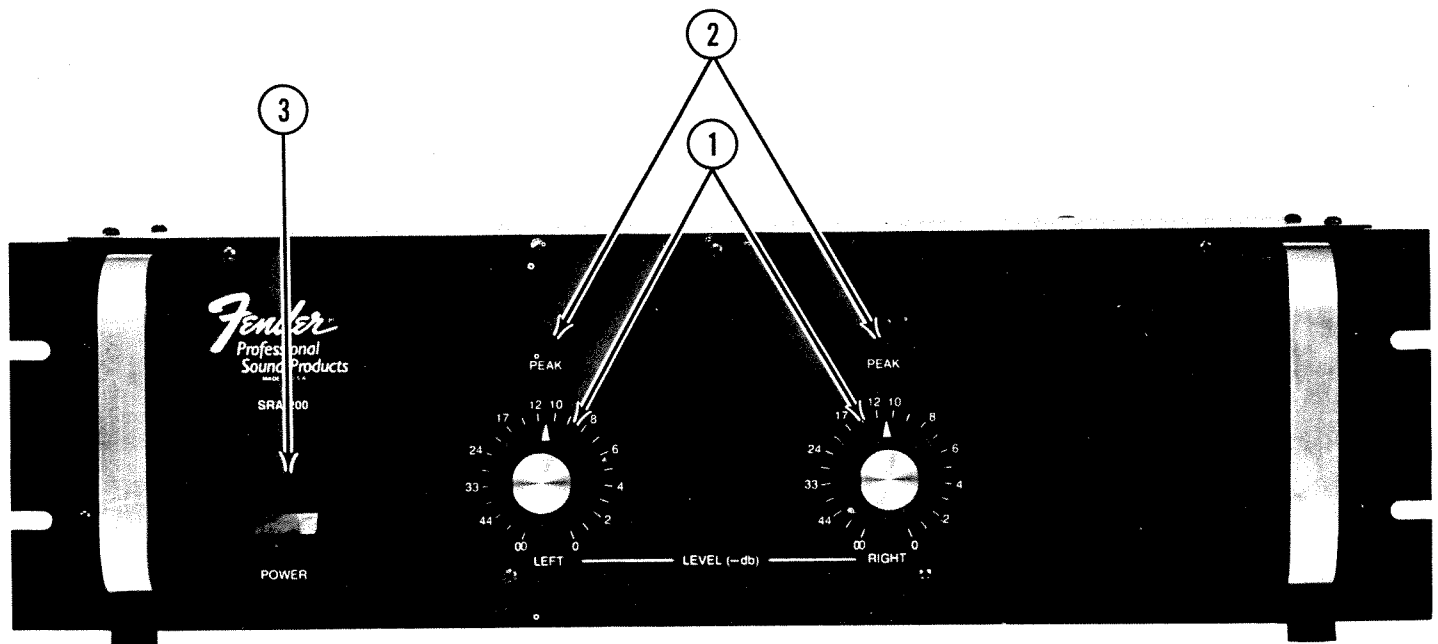
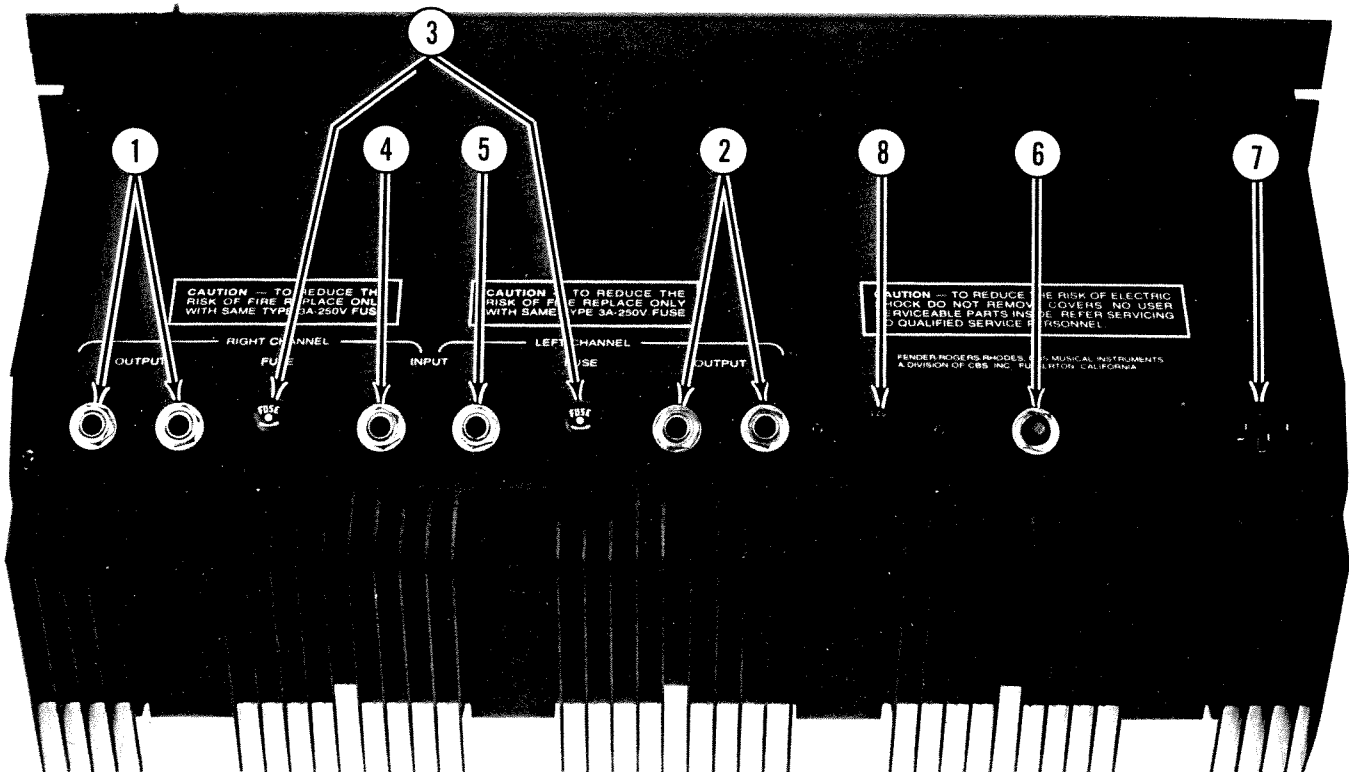

FIGURE 1 — Front Panel
FIGURE 2 — Rear Panel
Input Attenuators (Fig. 1 - Item 1)
LED Peak Indicators (Fig. 1 - Item 2)
Power Switch (Fig. 1 - Item 3)
Right Channel Output Jacks (Fig. 2 - Item 1)
Left Channel Output Jacks (Fig. 2 - Item 2)
Fuses (Fig. 2 - Item 3)
Right Channel Input (Fig. 2 - Item 4)
Left Channel Input (Fig. 2 - Item 5)
Circuit Breaker (Fig. 2 - Item 6)
Line Cord Receptacle (Fig. 2 - Item 7)
Voltage Selector Switch (Fig. 2 - Item 8)
Always turn OFF the power switch (Figure 1 - Item 3) before making line voltage changes. Selection should be made only to the proper AC line voltage for your area.
3. Set both channel input attenuators (Fig. 1 - Item 1) to their minimum level position (∞).
4. Plug the power cord (supplied) into the line cord receptacle located on the rear panel (Fig. 2 - Item 7). Do NOT remove the grounding prong on the AC plug, it prevents hum and possible shock. If necessary, use a three-prong to two-prong adapter.
5. Turn the power switch on (Fig. 1 - Item 3). The switch's internal lamp will light up. If it does not, check the power cord connection and the circuit breaker (Fig. 2 - Item 6).
6. Adjust the volume level with the channel input attenuators. Maximum permissible volume is reached when the LED peak indicators (Fig. 1 - Item 2) begin to flicker. Beyond this point, audible distortion and blown fuses may result.